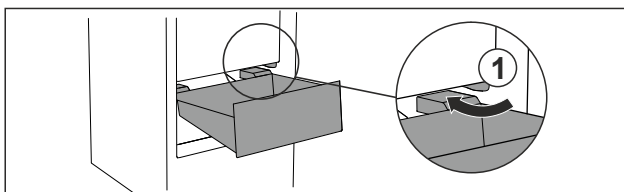

Fig. 82
- ▶ Guide drawer in at an angle around the stoppers Fig. 82 (1).